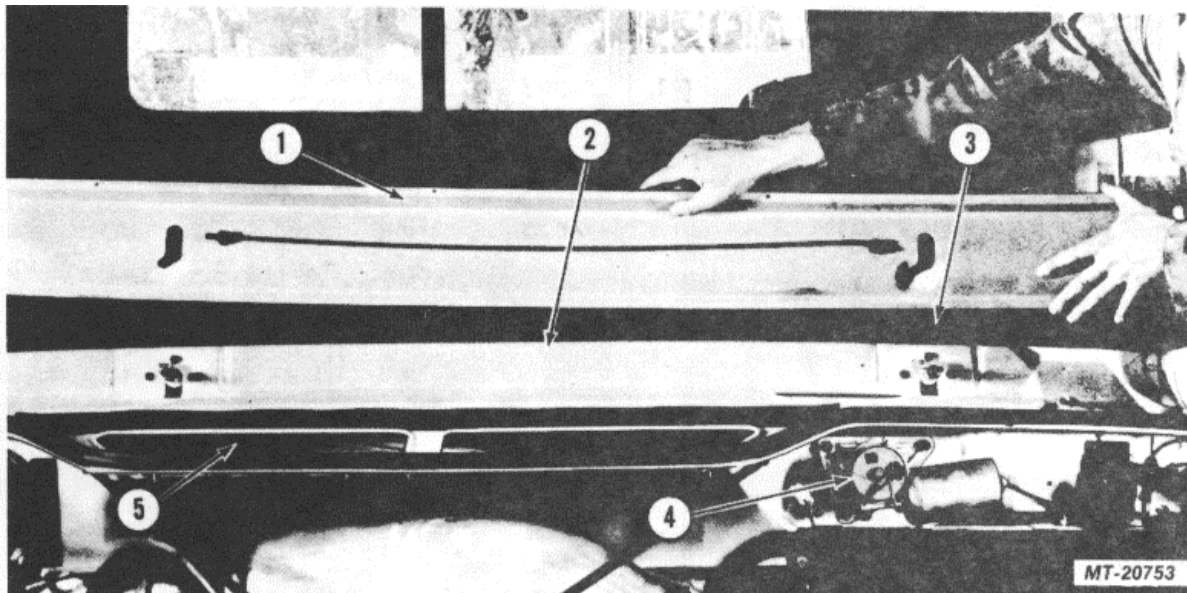

Fig. 3. Removing Cowl Cover Panel
3. Remove seven mounting screws and detach cowl cover panel from top of cowl (Fig. 3).